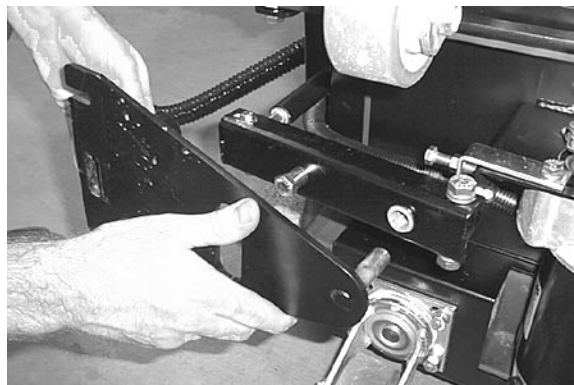

Fig. 2
1. Remove the squeegee mounting plate, 7/16" wrench required (Figure 2).